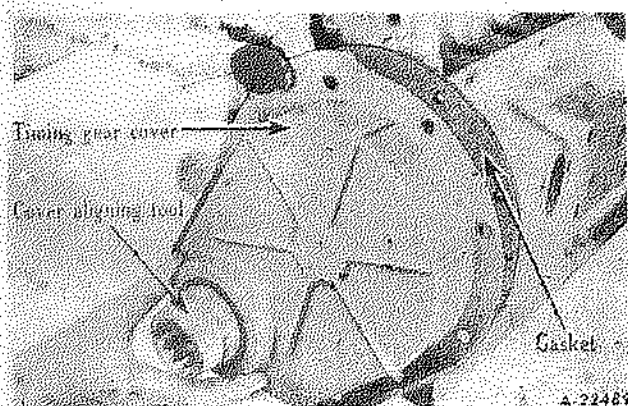

Fig. 54 - Aligning timing gear cover using an aligning tool
10. **INSTALL GEAR COVER CASE.** Place gasket in position on case cover. Place crankshaft oil slinger over end of crankshaft and install Woodruff key for fan drive pulley in crankshaft. Place gear case cover in position and install gear case cover aligning tool (Fig. 54). Install capscrews, new lockwashers and nuts. Remove aligning tool.